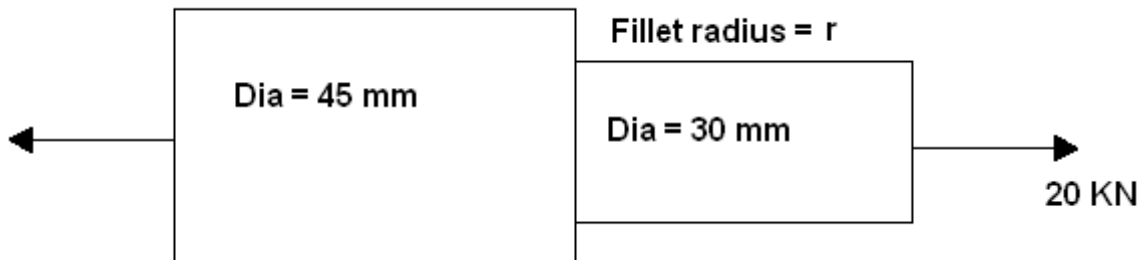

Figure 4
4. A plate 10mm thick, subjected to a tensile load of 20kN is shown in Figure 4. This plate is made of cast iron ( $S_{ut} = 350 \text{ N/mm}^2$ ) and the factor of safety is 2.5. Determine the fillet radius. [16]